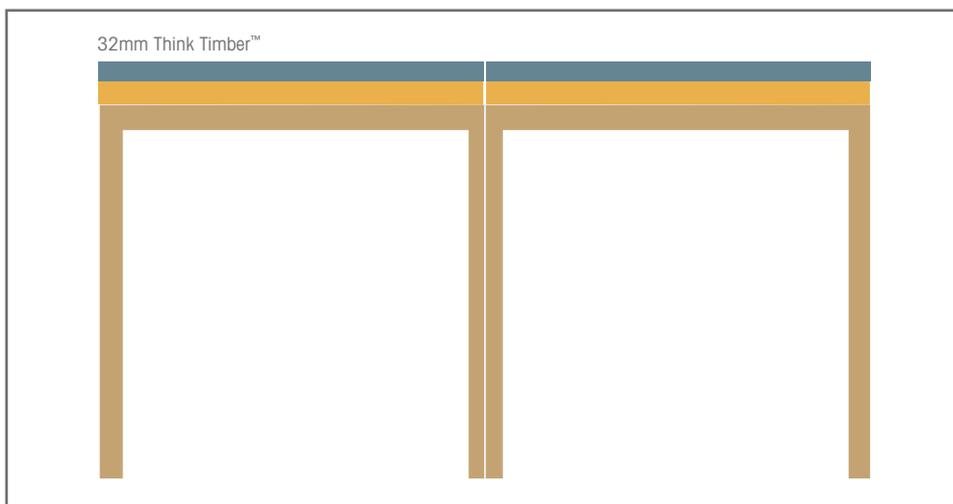
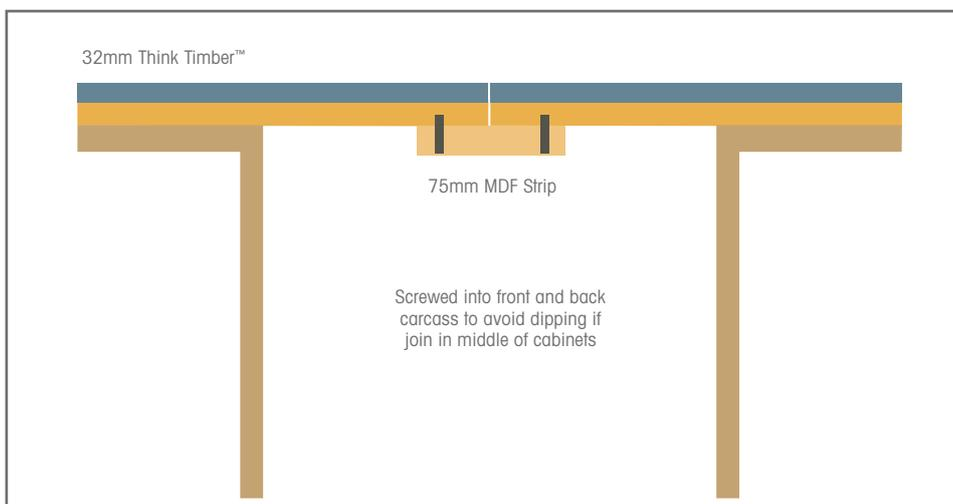

Fig. 4 Strongly recommended position
Fig. 5 (not advisable) Join in middle of unit with MDF strip (if recommended position not possible)
- Always cut so the join sits on the end panel of the cabinet wherever possible (Fig. 4), enabling benchtops to be joined on a gable end not in the middle. This gives added support to a join and a stronger area for leveling up the surface to achieve a flush join. Where this isn't possible an MDF strip (90x25mm) should be secured below the join to give added support (Fig. 5).